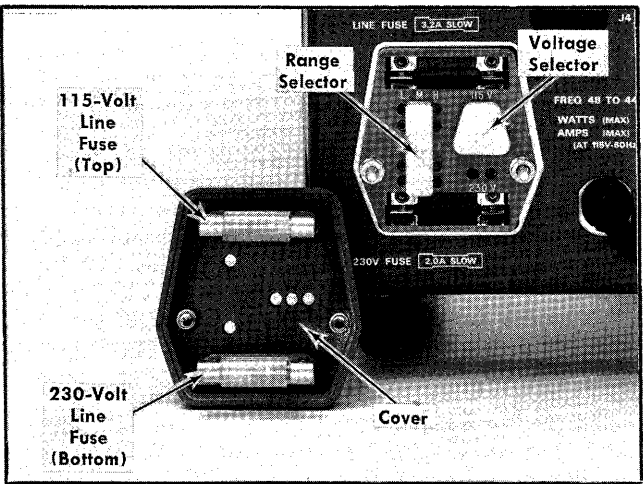

Fig. 2-1. Line Voltage Selector assembly on the rear panel (shown with cover removed).
3. To convert from 115 volts nominal to 230 volts nominal line voltage, pull out the Voltage Selector switch bar (See Fig. 2-1); turn it around 180° and plug it back into the re-
4. To change regulating ranges, pull out the Range Selector switch bar (see Fig. 2-1); slide it to the desired position and plug it back in. Select a range which is centered about the average line voltage to which the instrument is to be connected (see Table 2-1).